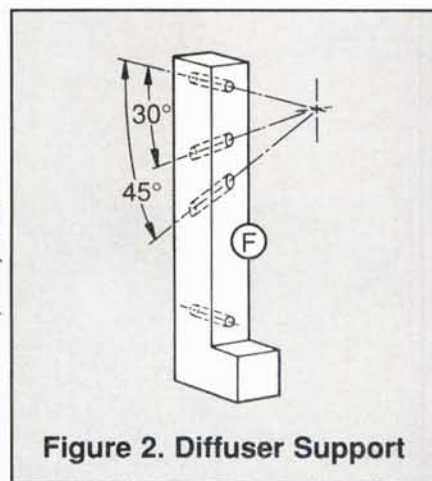

Figure 2. Diffuser Support
Begin by ripping a kiln-dried 2 X 4 into 1-1/2" X 1-1/2" stock. Do not use wet wood or even kiln-dried wood that has recently undergone a change in environment. A kiln-dried board that has been brought into a humid basement, for example, will start to absorb moisture. If you cut it before the moisture has completely penetrated the wood, the imbalance will cause the board to twist or warp as it is ripped. Now cut each piece requiring 1-1/2" stock to length as specified in the cutting list—the long upright (A), two base pieces (B), clamping arm (C), and clamping arm extension (D). Rip the remainder of your 2 X 4 again (or use 3/4" stock) to make the braces (E). Finally, cut a 10-1/2" length of 2 X 4 and shape it as shown in Figure 2 for the diffuser support (F). Note the holes